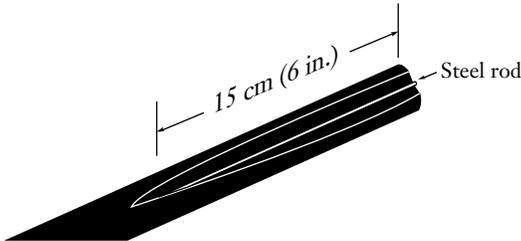

Figure 4
4.3 Starting at the end of the cable, use the cable sheath knife to shave off 15 cm (6 in.) of the outer sheath directly over the steel rods. Shave the sheath until both of the steel rods are visible (Figure 4). Shave off approximately 7.5 cm (3 in.) for armored drop cables